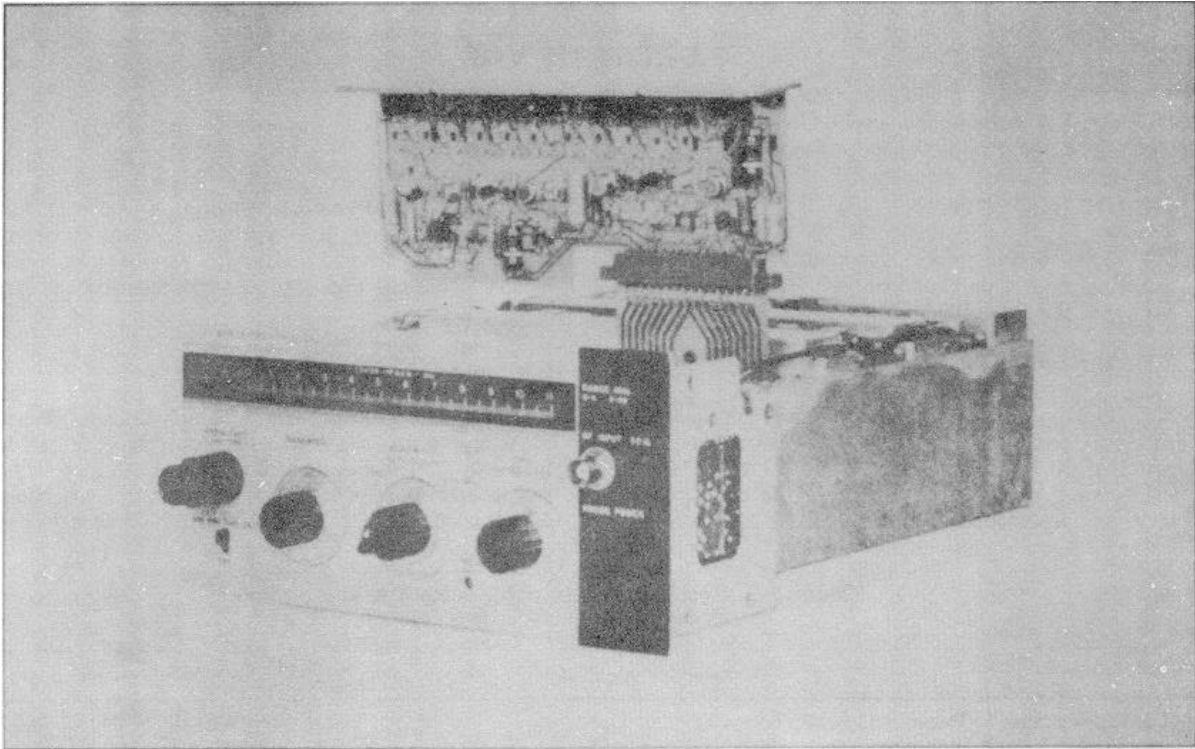
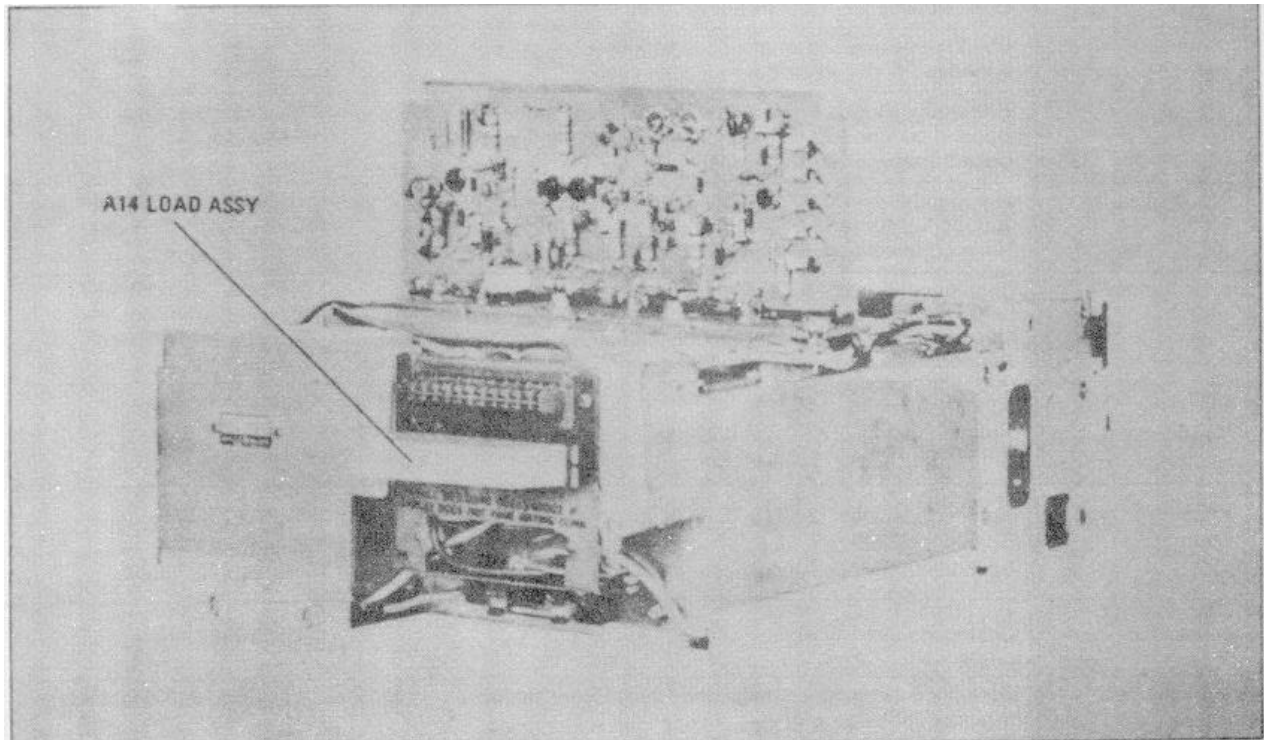

Figure 8-1. 8553B A5 Voltage Control Assy Extended for Maintenance.
Figure 8-2. 8553B Inverted Extension for Maintenance.
**8-9. Circuit Board Extender.** A circuit board extender is supplied with the HP 11592A Service Kit. The extender board may be used to extend the A5 Voltage Control assembly in the 8553B, clear of the housing (see Figure 8-1) to provide easy access to test points and components. The rest of the assemblies in the 8553B may be removed and reinstalled in an inverted position by using the fasteners provided in the HP 11592A Service Kit (see Figure 8-2) to provide access to test points and components.